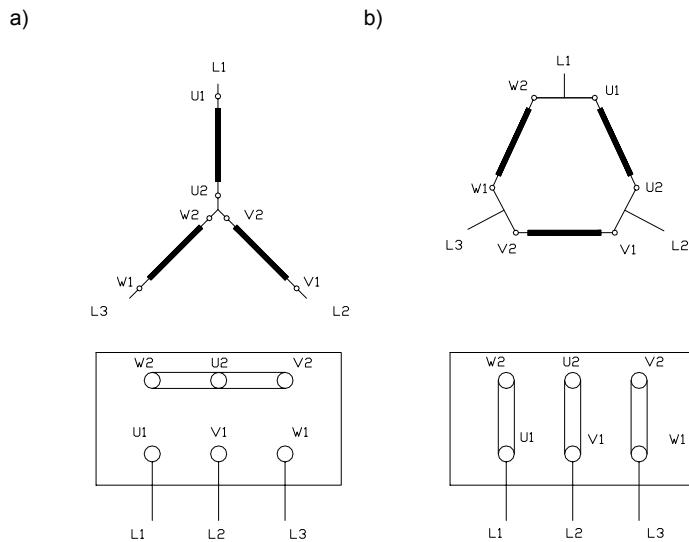

Fig. 17 Connection of a motor a) with 230/400 V power supply b) with 400/690 V power supply
**Before connection of power supply one should check if figures below (Figs. 17 and 18) are in conformity with data present on the data plate of the motor and in OMM (Operation and Maintenance Manual) of the motor.**